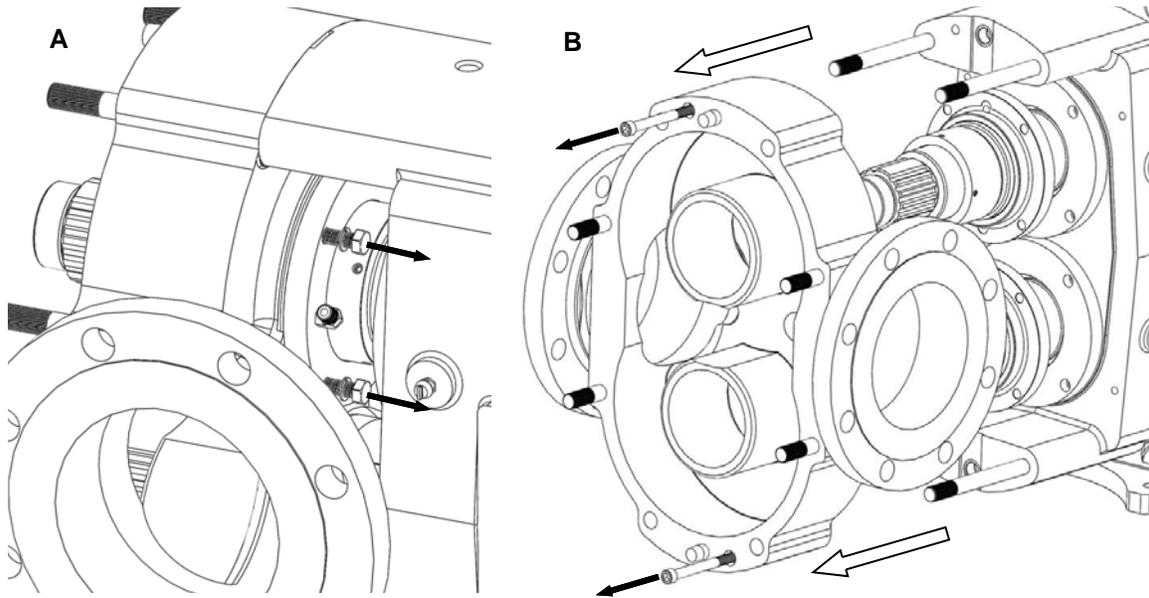

Figure 28: XP 320 Pump Disassembly
5) Disassemble the XP 320/ 380 (double Seal) and XP 323 fluid end by removing the cover and rotors as seen on page 16. Next, remove the bolts (eight total) from each seal gland and slide the gland toward the gear case (Figure 28, A). Remove the two body hold down bolts using the appropriate driver and using a soft hammer tap the body loose from the gear case (Figure 28, B).